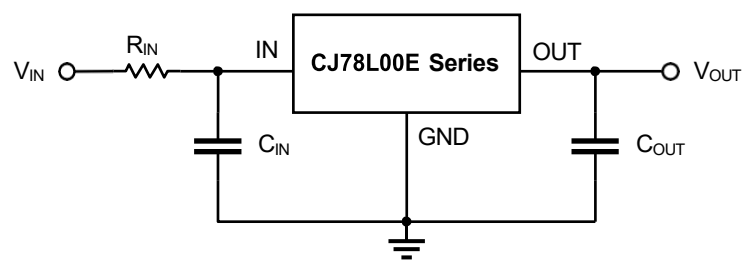

Figure 9-3. Resistance is used at IN
2. Place a resistor with appropriate resistance in series before the IN of the voltage regulator, which can help the voltage regulator share part of the energy in case of surge. The resistance value of the resistance should not be too large. The specific resistance value depends on the application of the circuit. Generally, the resistance value of this resistance does not exceed 20Ω . As shown in Figure 9-3.
The CJ78L00E series can obtain better transient response with the help of output capacitance. However, if the output capacitor is relatively large, the surge current generated by the charging of the output capacitor will also be large at the moment of power on of the regulator, and the large surge current passing through the regulator may damage the internal circuit. When the output capacitance is large, adopting the circuit design shown in Figure 9-3 will reduce the possibility of damage to the device due to large surge current to a certain extent. It is recommended that the selection of output capacitor should not exceed $20\mu\text{F}$. **If the selection of output capacitor exceeds $20\mu\text{F}$, it is recommended to adopt the circuit design in Figure 9-3 to reduce the possibility of accidental failure of the device due to large surge current during power on.**